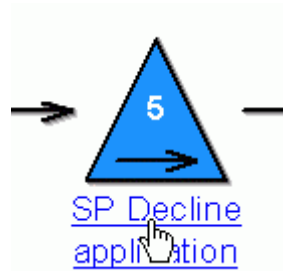

Figure 217: Hyperlink display (Example "subprocess")
- **click** on the **visualised object reference** (e.g. name of the sub model or referenced object), which is displayed as a hyperlink (see fig. 217, p. 260),
Note: The hyperlink function (see fig. 217, p. 260) is only possible for non selected objects.